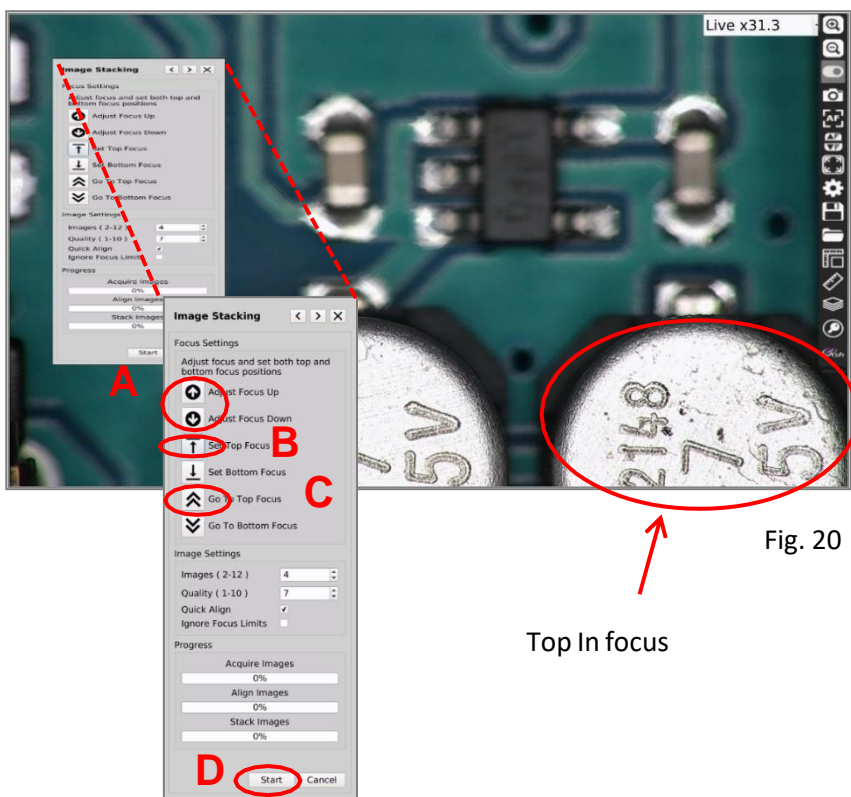

Fig. 20
3. Now bring the top of the sample into focus with the Adjust Focus up and down arrow buttons (A), click on the **Set Top Focus** button (B), the **Go To Top Focus** button (C) will then become active (Fig. 20).